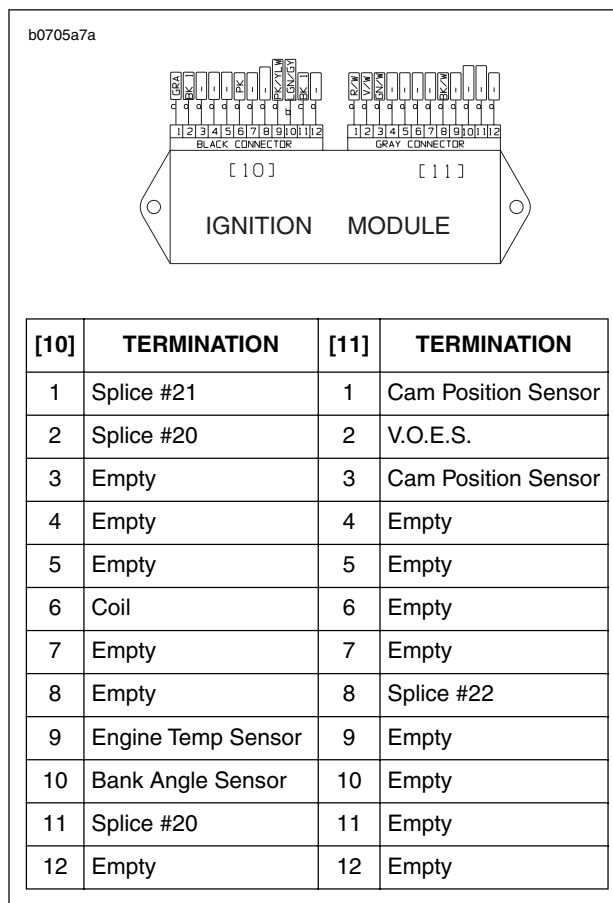

Figure 7-12. Ignition Module Connectors [10] and [11]
4. See Figure 7-12. Disconnect ignition module connectors [10] and [11] from main wiring harness.
2. See Figure 7-12. Attach ignition module connectors [10] and [11] to main wiring harness.
5. See Figure 7-12. Note position of each cam position sensor wiring terminal in plug end of connector.